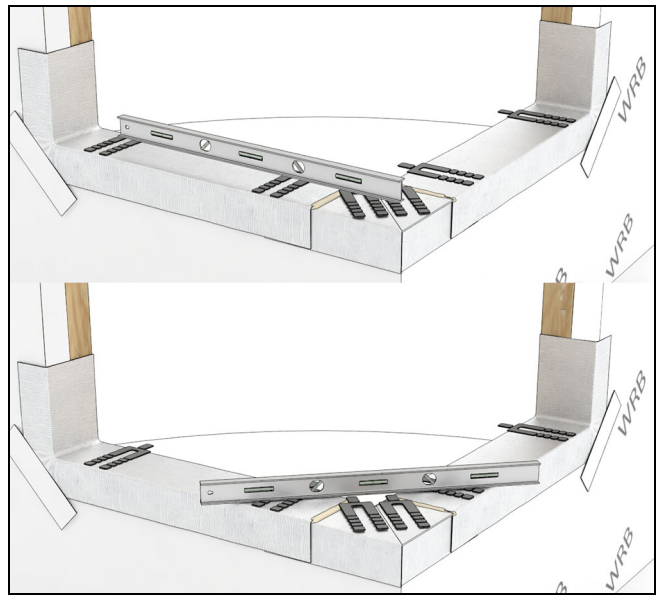

Figure 33
2. Level the shims as necessary to make sure both legs are level. See Figure 33.